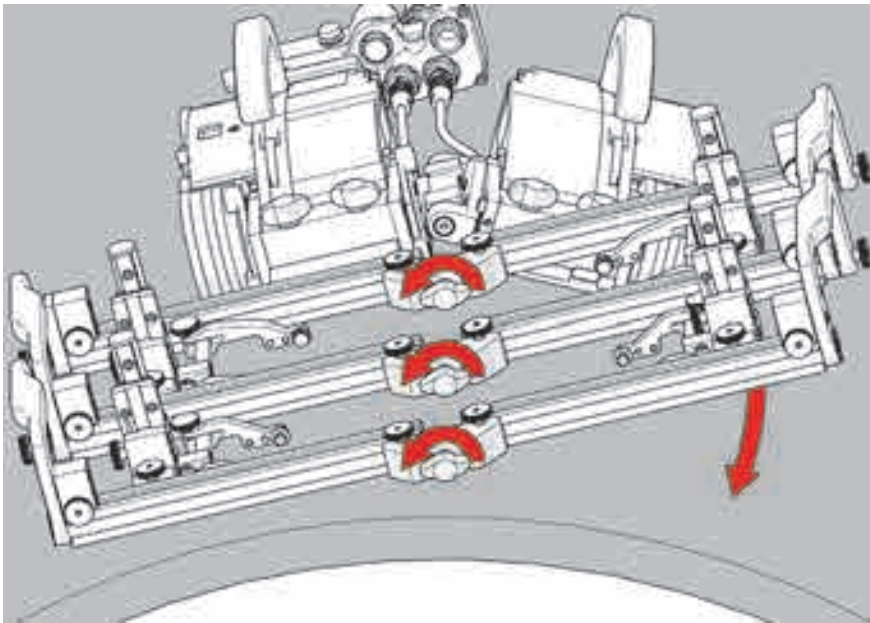

Figure 4-116 Loosen the pivot wing knobs
1. Loosen the pivot wing knobs at the center of the rack system (see Figure 4-116 on page 180).